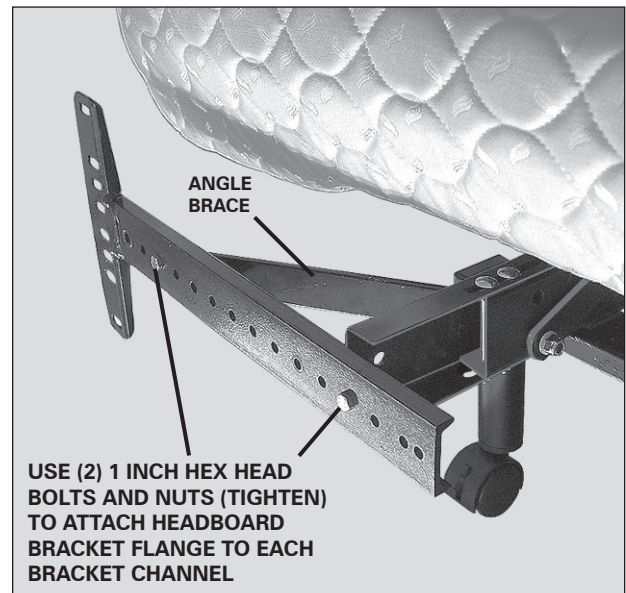

FIGURE 8: Headboard bracket flange installation (*attach one flange to each of the headboard bracket channels*).
- c. Attach one headboard bracket flange to one of the bracket channels with (2) hex head bolts/nuts (**FIGURE 8**). Tighten bolts. Repeat procedure to attach the other headboard bracket flange.